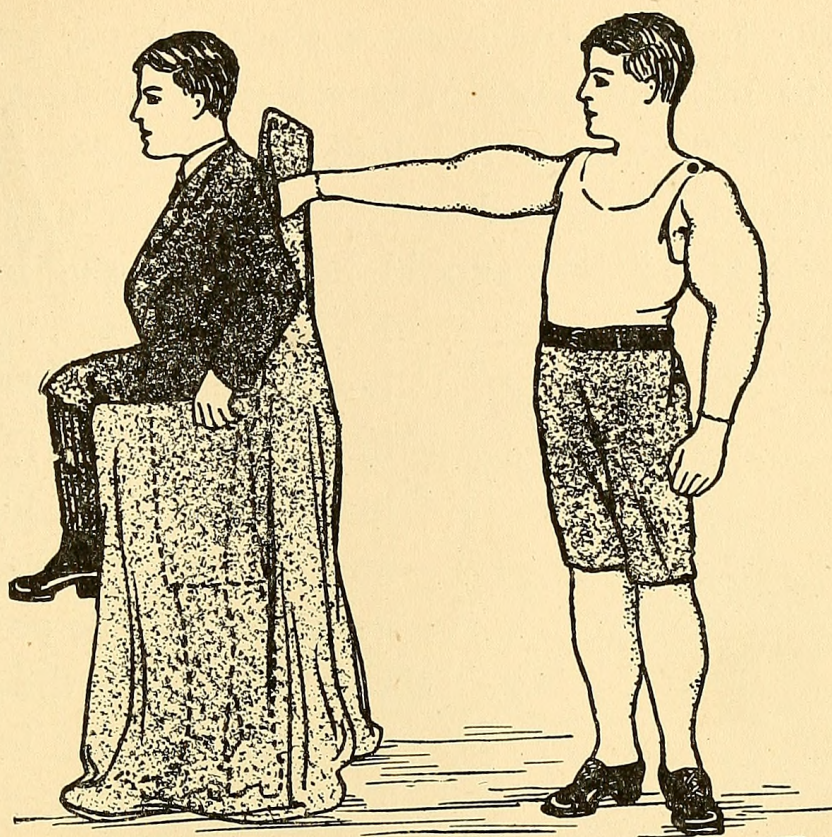
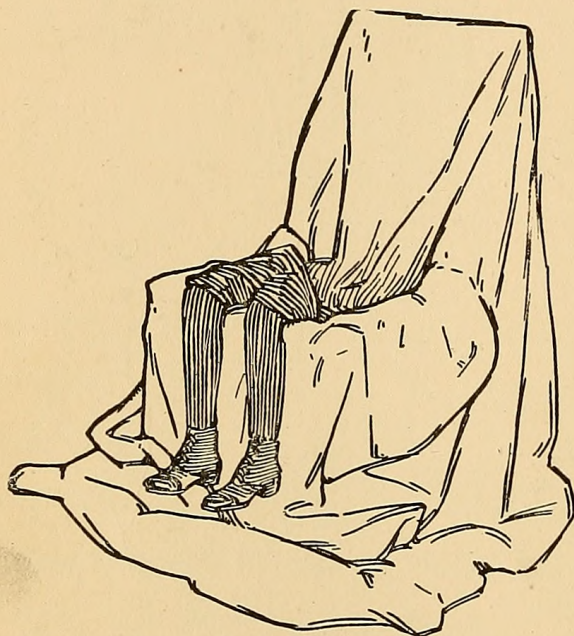

FIG. 334. — Sam Dow, "The Strong Man," holding a Seated Boy at Arm's Length.
FIG. 336. — The Draped Chair with False Legs Attached.
**Sam Dow**, the strong man (Fig. 334), should wear a long-sleeved shirt with the shoulders and sleeves padded out to form large muscles, and should also pad the calves of his legs; if this padding throws the muscles out of their natural positions, so much the better.
hang down to the floor all around when the chair is held out at arm's length (Figs. 334 and 336), leaving the seat opening uncovered. Next get a pair of short trousers, stuff the legs, fasten a pair of stuffed stockings to the knees, fit the feet into a pair of shoes, and then fasten the legs to the chair, as shown in Fig. 336. The boy who is to appear to be seated upon the chair stands in the opening in the seat with the waist of the false trousers fastened and concealed under his coat (Fig. 334). While the chair stands on the floor, the boy rests on his knees, but when the strong man
grasps the back of the chair with his hand and commences to lift, the boy slowly arises to his feet, taking the position shown by the dotted lines in Fig. 334.